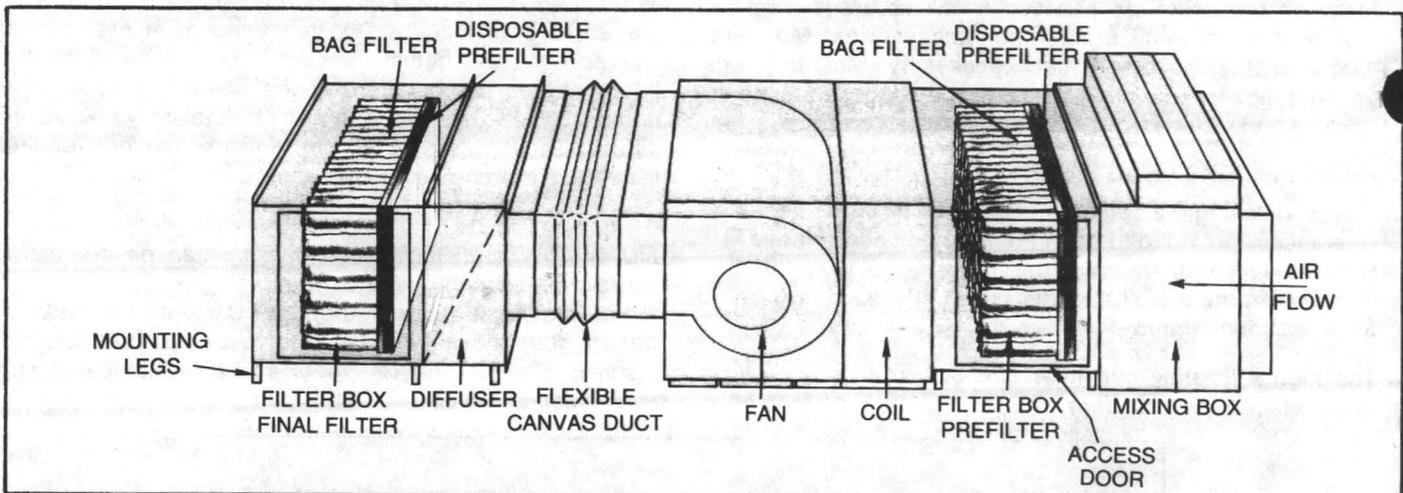

FIGURE 19 - High Efficiency Bag Filter Installation with Draw-Thru Unit (Used as Pre-Filter and Final Filter)
When the high efficiency bag filter is used as a final filter, it must be mounted on the outlet side of the fan with the canvas duct and diffuser sections, as shown in Figures 19 and 20. Complete the following to install the final filter section:
**NOTE:** The final filter and prefilter section on sizes 6-86 can be installed with a right side or left side access door by flipping the filter section to desired access door location. Proper air flow direction thru filter section must be maintained. See Figure 19. Note that on size 3 units the access door is predetermined according to sales order specifications and cannot be modified.
When the high efficiency bag filter is to be used as a prefilter, it must be mounted to the coil section of a draw-thru unit or to the inlet side of the fan on a blow-thru unit. See Figures 19 and 20. Field-supplied isolators should be used on the filter section mounting legs to control vibration. The bag filter is not designed to be used as a prefilter on Sprayed Coil Climate Changers. Complete the following to install a prefilter section: